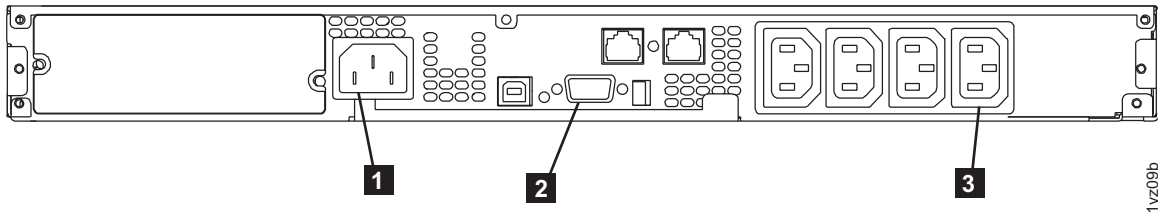

Figure 319. 2145 UPS-1U (rear view)
9. At the back of the 2145 UPS-1U, connect the SAN Volume Controller power cable to load segment 2 receptacle (**3** in Figure 319 on page 311). If applicable, install the power cable-retention bracket (shown in Figure 318 on page 311).
10. Reconnect the SAN Volume Controller signal cable to the communication port (**2** in Figure 319).
11. Reconnect the 2145 UPS-1U main power cable, from either the power distribution unit or from the redundant ac-power switch, into the input connector (**1** in Figure 319).
The 2145 UPS-1U is now in standby mode with the SAN Volume Controller offline. All indicators that are shown in Figure 319 are off.